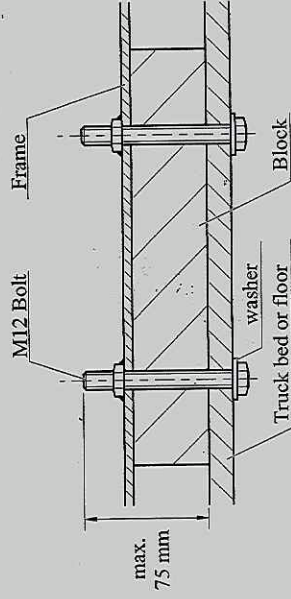

Fig. 8.3 Cross section
**Make sure that the bolts do not protrude from the truck bed or floor by more than 75 mm (check, see Fig. 8.3). Too long bolts may puncture the fuel tank.**